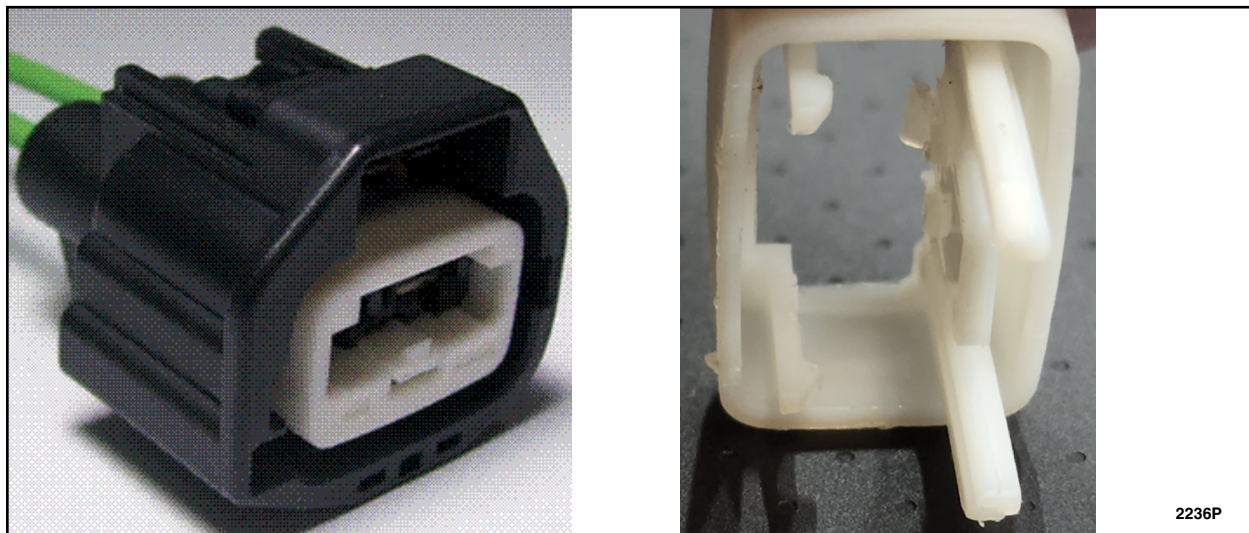

FIGURE 22
26. Remove connector cover to the C1074 connector to access the terminal. See Figure 22.